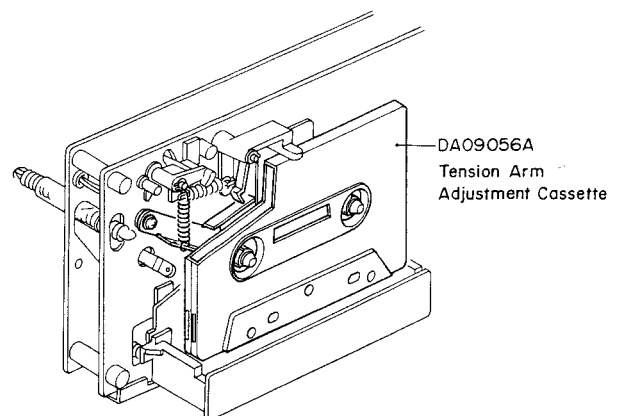
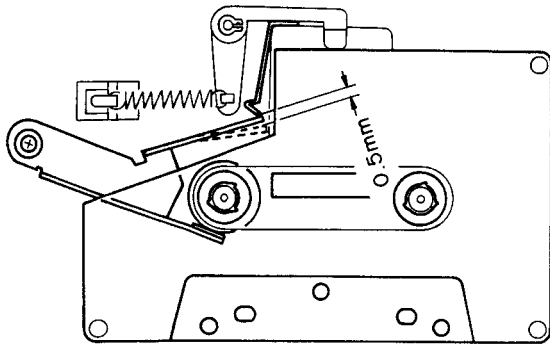

Fig. 4.12
Fig. 4.13
Refer to Figs. 4.12 – 4.14.
- (1) Load a Tension Arm Adjustment Cassette (DA09056A) in the N-480Z referring to Fig. 4.12.
- (2) Set the N-480Z in Play mode.
- (3) Bend the Back Tension Arm with pliers so that the gap between the Cassette Holding Spring assembled on the Head Base Ass'y and the Back Tension Arm becomes 0.5 mm as shown in Fig. 4.13. Do not bend the top of the Back Tension Arm.
- (4) Load the Back Tension Gauge (DA09055A) in the N-480Z.
- (5) Set the N-480Z in Play mode and read the torque value of Back Tension Gauge.